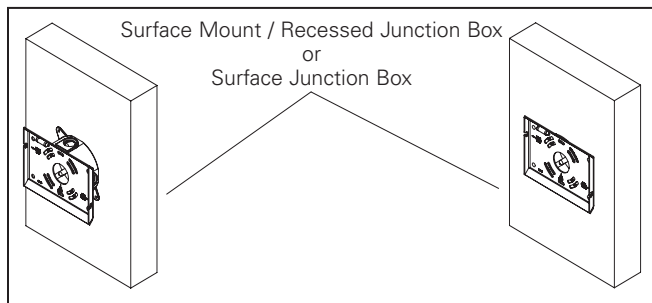

Figure 2.
2. Attach the wedge plate to the wall over the junction box (Figure 2). The wedge plate must be mounted with hardware able to support a fixture weight of up to 50 lbs.